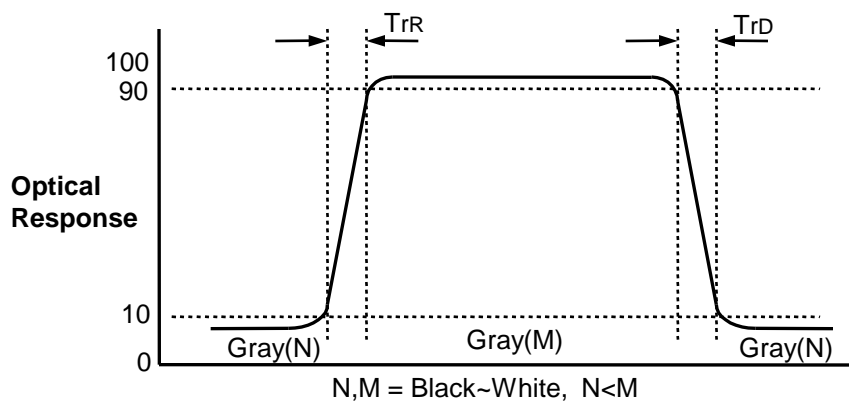

FIG. 10 Response Time
4. Response time is the time required for the display to transit from G(N) to G(M) (Rise Time, Tr_R) and from G(M) to G(N) (Decay Time, Tr_D). For additional information see the FIG. 10. ($N < M$)